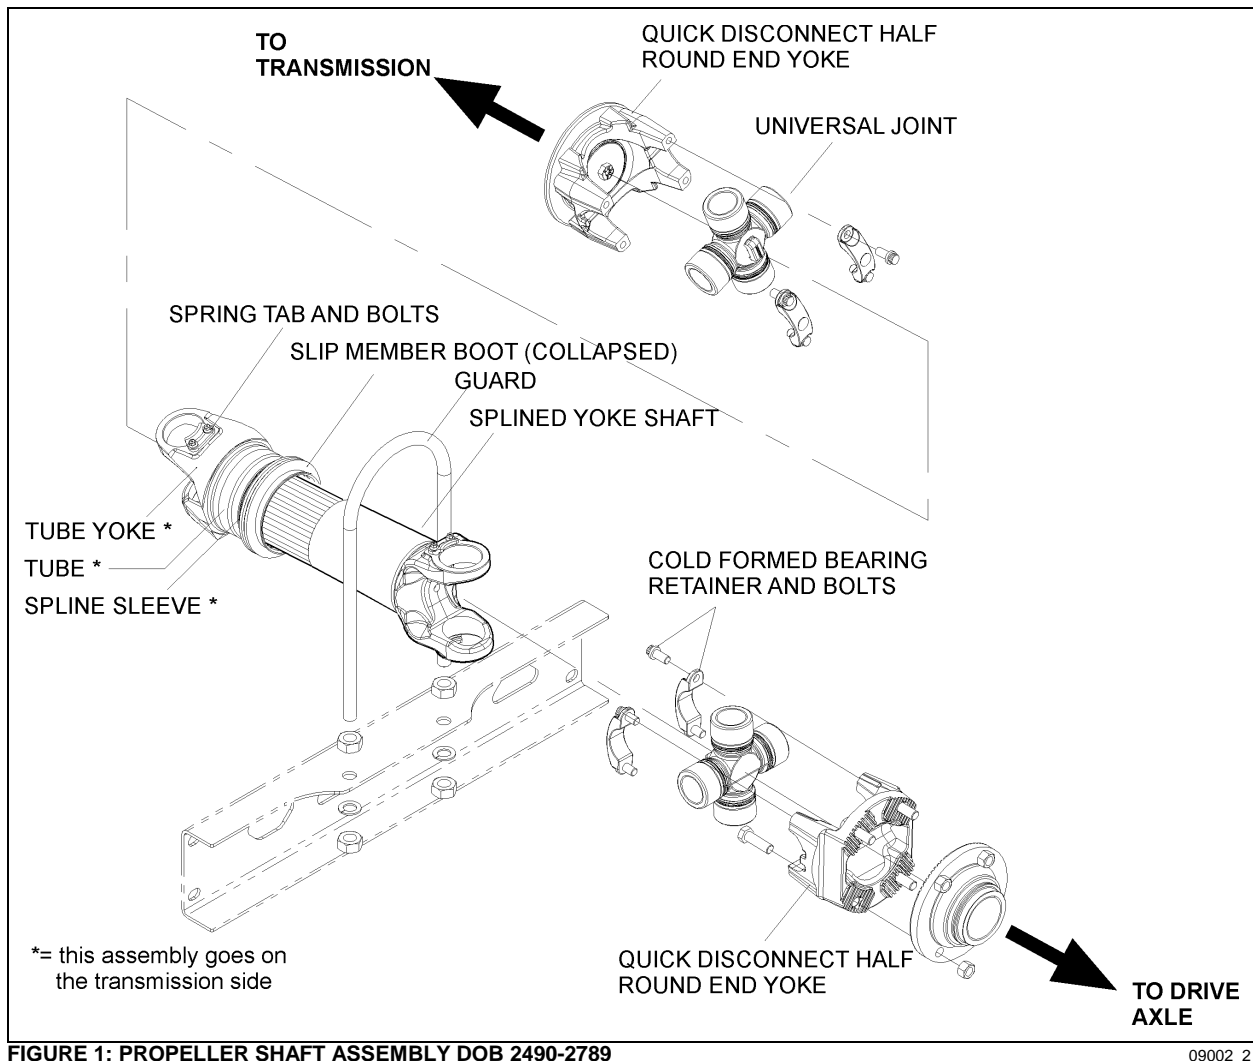

FIGURE 1: PROPELLER SHAFT ASSEMBLY DOB 2490-2789
The propeller shaft transmits power from the transmission to the differential (Figure 1). The propeller shaft is Dana-Spicer Life Series SPL250 type with tubular shafts. It is provided with two heavy-duty universal joints (Figure 1).
- **All universal joints securing hardware (bearing retainers and bearing retainers bolts, spring tabs and bolts) must be removed and replaced** using new OEM specified replacement parts (Figure 1, FIGURE 2).